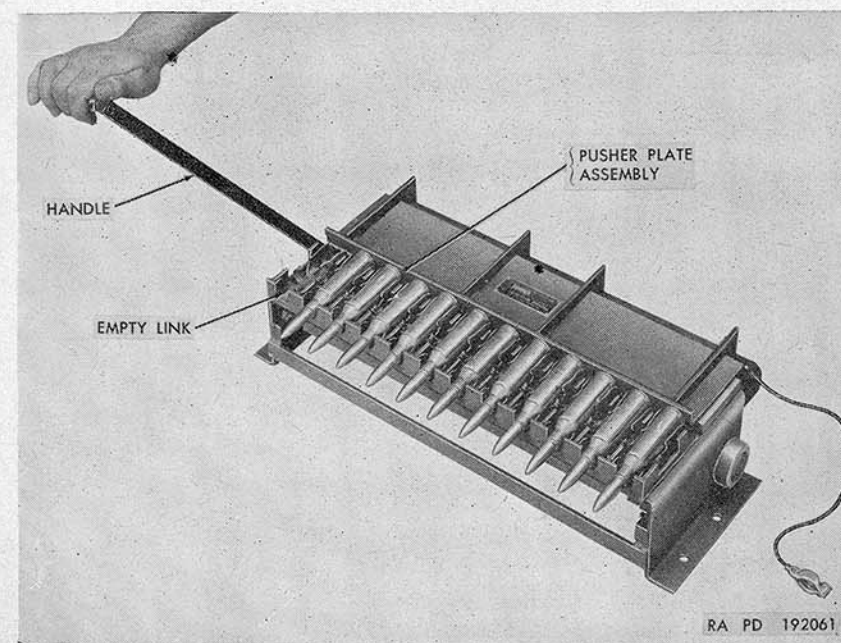

Figure 21. Rounds seated in links forming belt.
- (7) Rotate the handle forward (fig. 21) and seat the rounds in the links. Be sure each cartridge is engaged at its groove by the positioning detent on the link. Rotate handle rearward.
- (8) Lift completed belt from machine and move empty link (fig. 21) from the right side of the machine to the stall furthest to the left. Repeat operations described in (3), (4), (6), and (7) above until a belt of desired length is obtained.
- (9) Test the belt for flexibility by turning the completed belt over; grasp the last round, and draw it across the rest of the completed belt. Any faulty link will cause the belt to kink instead of folding over smoothly. Any link whose connect-